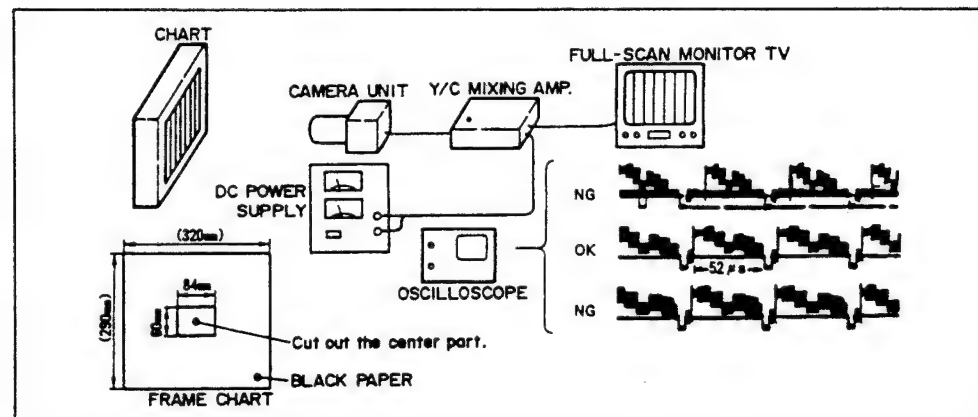

Fig. II-3
(1) Before adjustments, warm up the camcorder for more than 3 minutes.
(2) Use a light box of 5600°K temperature.
(3) Make a frame chart as illustrated in Fig. II-3.
(4) Set the standard angle of view for each chart as follows.
To make a standard angle of view with a full scan monitor, shoot the chart full in the screen. (Fig. II-3)
To make a standard angle of view with an oscilloscope, set the range to 20 μ s (video signal) as shown in Fig. II-3 and align the each center of chart and screen.